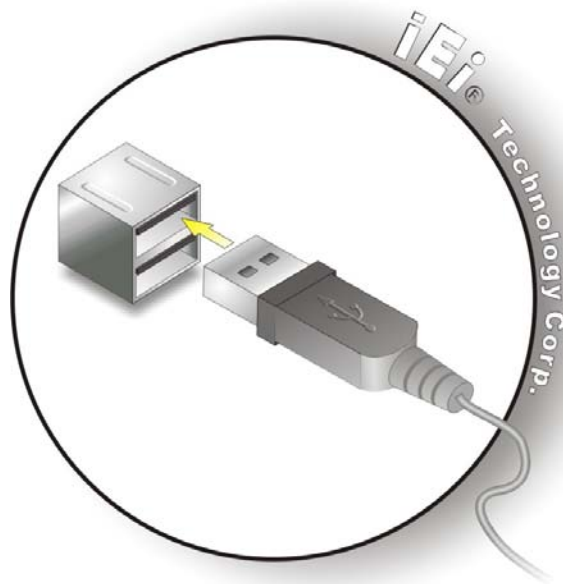

Figure 3-26: USB Device Connection
- Step 2: Align the connectors.** Align the USB device connector with one of the connectors on the uIBX-210-CV-N2600. See **Figure 3-26**.